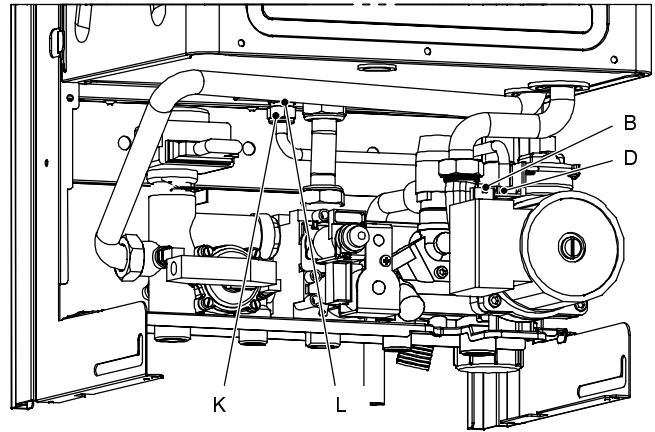

Fig. 55
- 2 Completely unscrew the connection K, the lock-nut L (Fig. 55) and remove the expansion vessel from the top of the boiler.